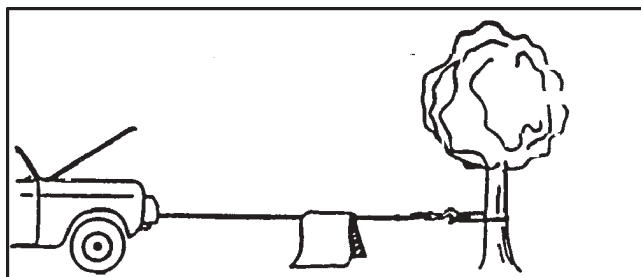

Figure 11-9 Using a cloth damper
9. It is a good idea to lay a heavy blanket or jacket over the wire rope near the hook end when pulling heavy loads (Figure 11-9). If a wire rope failure should occur, the cloth will act as a damper and help prevent the rope from whipping.